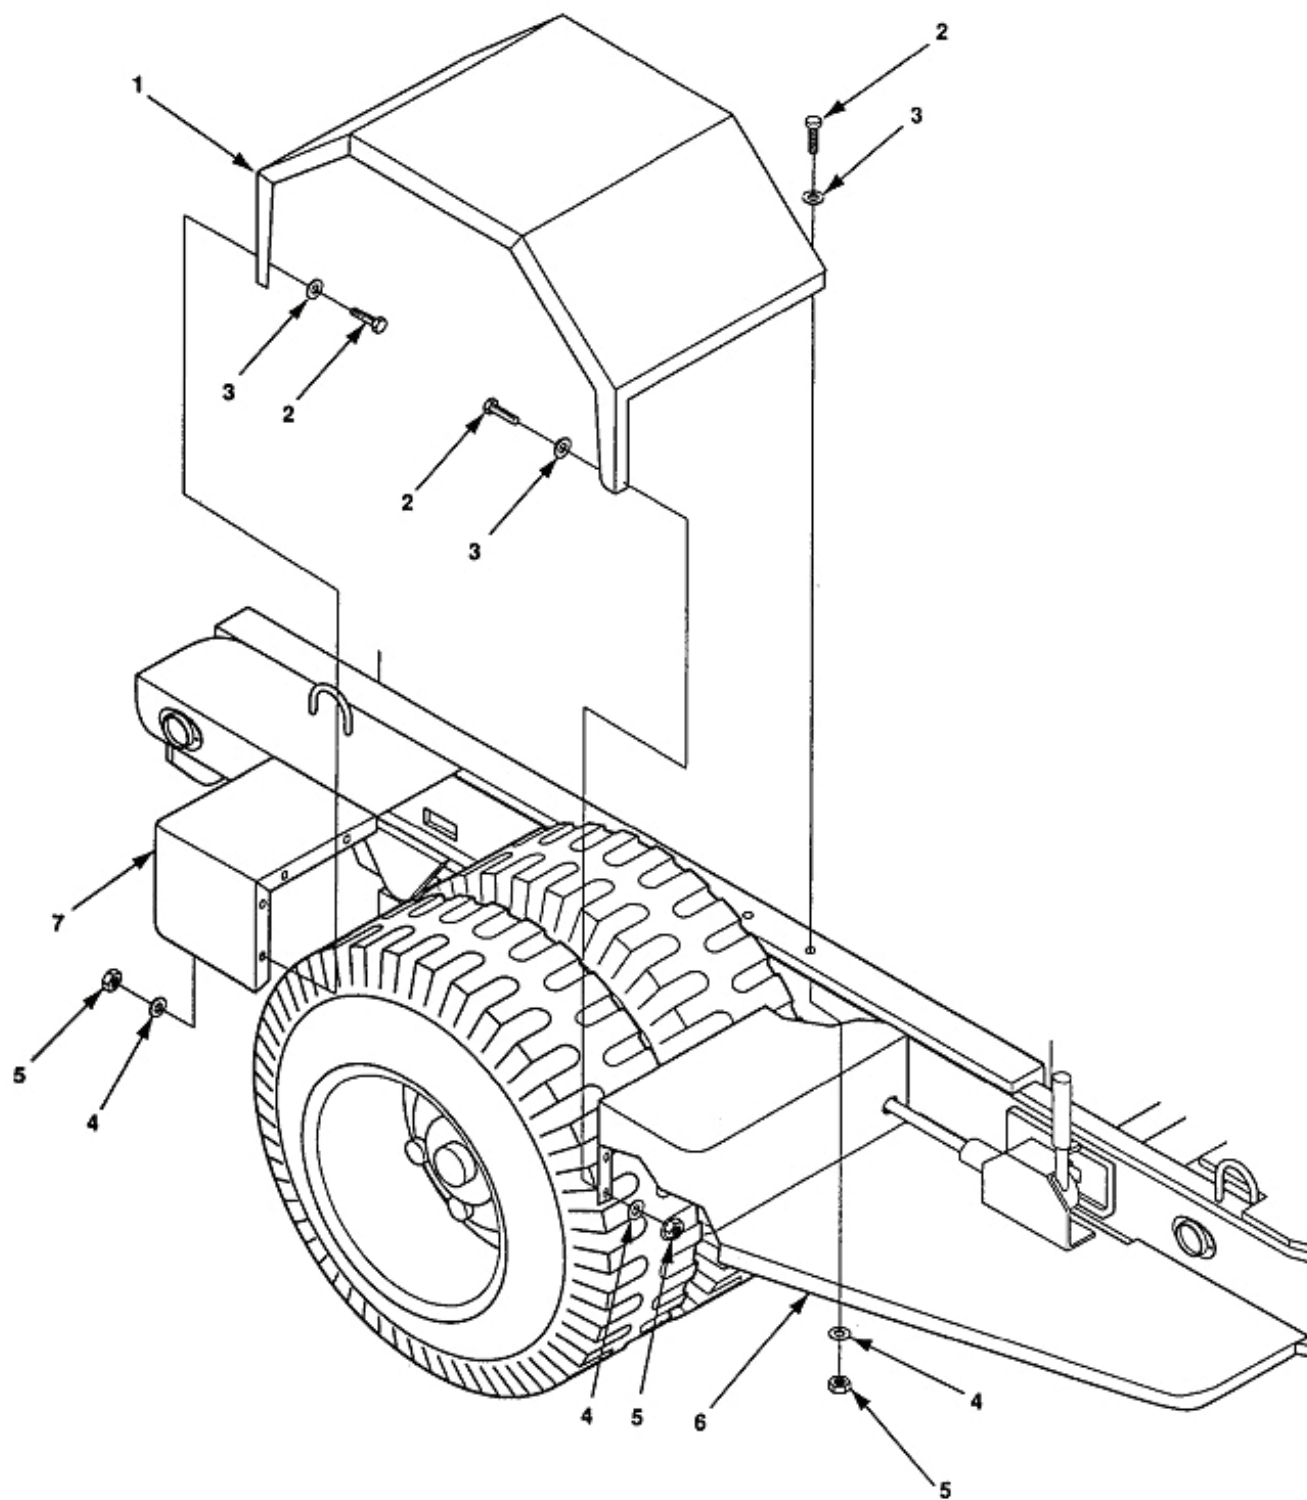

Figure 4-20. Fender Replacement, 2 1/2 Ton Trailer
1. Remove seventeen self-locking nuts (5, figure 4-20), flat washers (4), bolts (2), and flat washers (3), securing fender (1) to trailer frame. Discard self-locking nuts (5).
2. Remove fender (1).